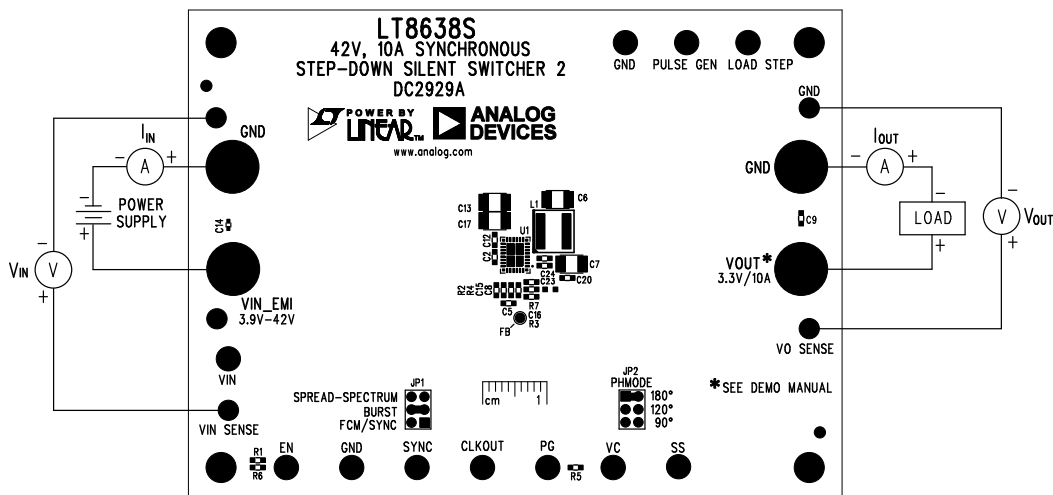

Figure 5. Proper Measurement Equipment Setup
Demonstration circuit 2929A is easy to set up to evaluate the performance of the LT8638S. Refer to Figure 5 for proper measurement equipment setup and follow the procedure below:
9. To test the transient response, connect a signal generator to PULSE GEN terminal, and add a desired base load between VOUT and GND (LOAD shown on Figure 5). Adjust the signal generator with a 2ms period, 5% duty cycle and an amplitude from 1V to 2V to start. Measure the LOAD STEP voltage to observe the current ($I_{LOADSTEP} = V_{LOADSTEP}/100m\Omega$). Adjust the amplitude of the pulse to provide the desired transient. Adjust the rising and falling edge of the pulse to provide the desired ramp rate. Figure 7 shows a load step from 2.5A to 7.5A. The 2.5A base load is added between VOUT and GND, while the 5A step load is controlled by the signal generator at PULSE GEN and measured at LOAD STEP with 0.1V/A ratio.